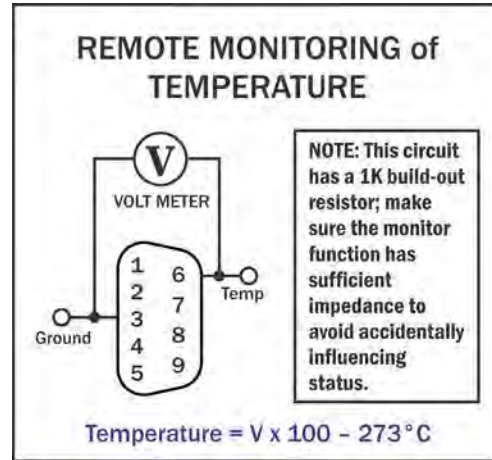

Figure A.3 – Remote Temperature Monitor
**Method:** Connect a voltage meter to monitor the temperature at the heatsinks of the amplifier. Connect across Temp (PIN 6) and Ground (PIN 3). See **Figure A.3**.